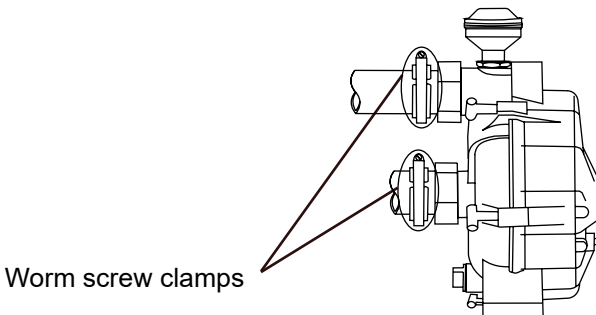

Fig. 22
3. Using a screw or nut driver, loosen the worm screw clamps (Fig. 22). Carefully remove them from the flanges then slide them to the right.